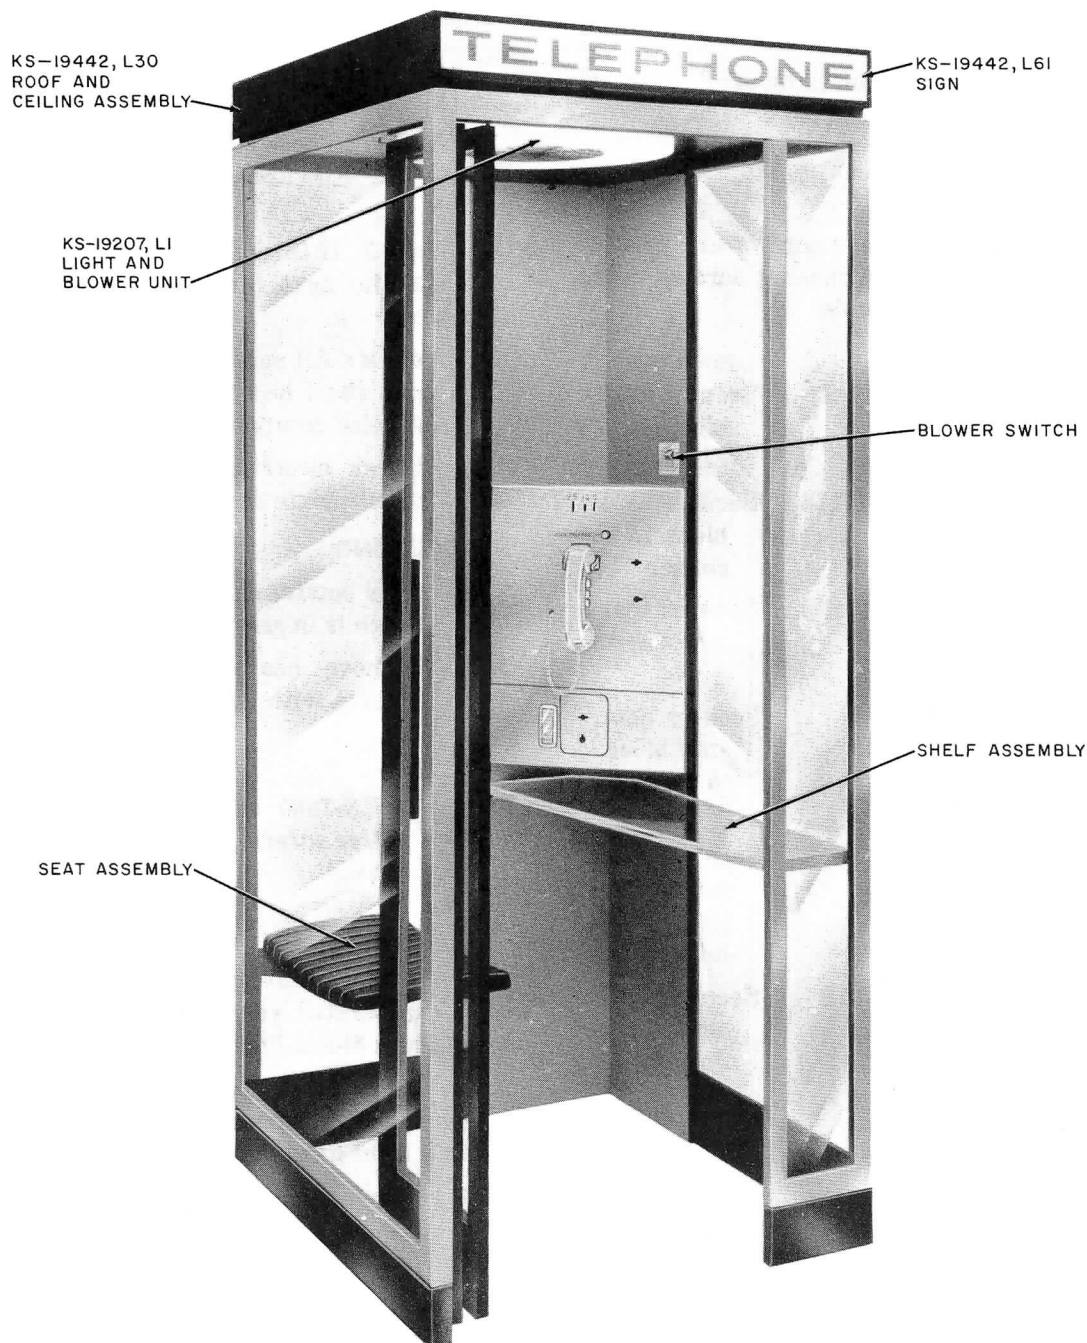

Fig. 1 — KS-19442 Deluxe Telephone Booth
1.01 This section describes the maintenance of the KS-19442 booth and booth components (Fig. 1).